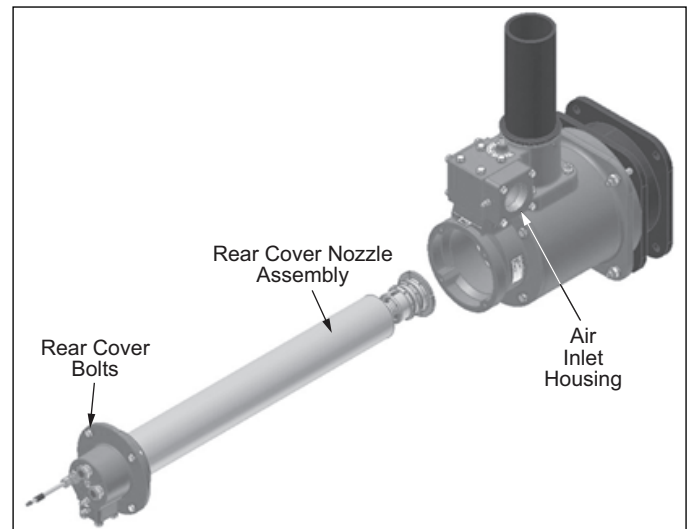

Figure 3.9
- If already assembled, remove the rear cover assembly by removing rear cover bolts. See Figure 3.9.
- Slide the rear cover nozzle assembly through the air inlet housing and into the combustor assembly. See Figure 3.9.